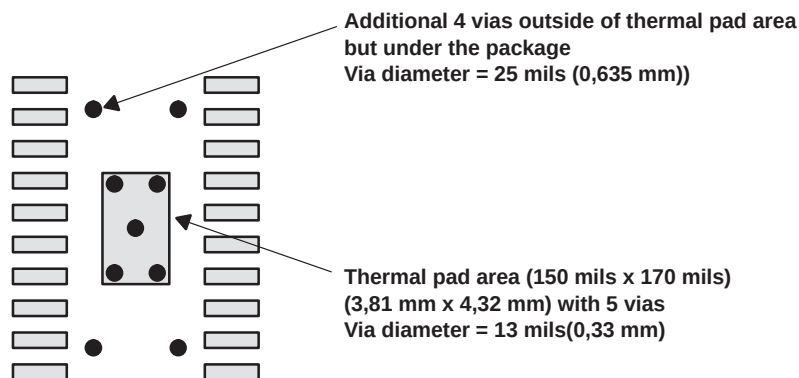

Figure 57. PowerPAD PCB Etch and Via Pattern
1. Prepare the PCB with a top side etch pattern as shown in Figure 57. There should be etch for the leads as well as etch for the thermal pad.